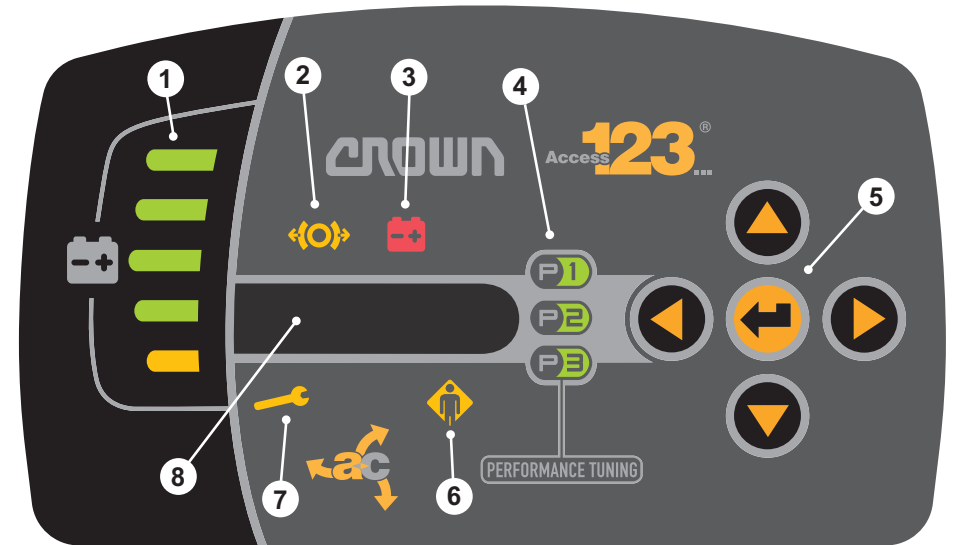

Fig. 8 Display panel
The battery discharge indicator (BDI) (Fig. 8, ①) consists of four green and one yellow LED.
**When the battery warning indicator light (Fig. 8, ③) flashes, the battery must be charged immediately. The truck will stop in 5 minutes.**
When the truck starts, one of the three performance setting displays illuminates (Fig. 8, ④). Different values for the maximum speed, acceleration etc. are assigned to the various performance settings.
The display screen (Fig. 8, ⑧) shows error messages, and/or operator messages from the operator menu.
When the truck is turned on, the display is in message mode. Display: **GPC 3000**. Depending on the pre-setting, one of the following readings can be chosen as the display (see Fig. 8):
The operator error indicator light (Fig.8, ⑥) lights up for the following reasons:
The service indicator light (Fig.8, ⑦) lights up for the following reasons:
The following table lists the navigation and enter button options (Fig.8, ⑤) within the operator menu:
The performance setting is displayed (Fig. 8, ④)